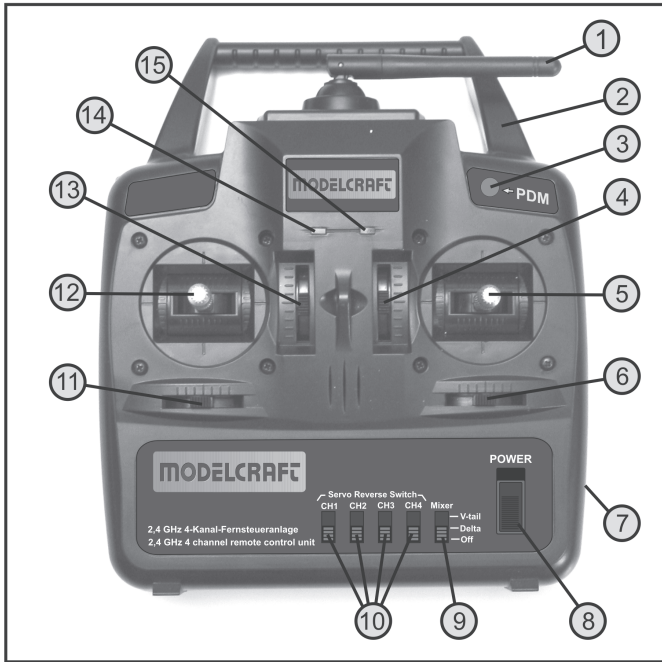

Figure 1
Angle the transmitter's aerial (see figure 1, item 1) to the side, so that the aerial is at a 90° angle to the connection line remote control/model. This is how you will achieve best signal transmission. Avoid directing the tip of the transmitter aerial directly at the model.
The power supply of the transmitter requires 4 mignon batteries (e.g. Conrad item no.: 652507, pack of 4, please order 1x) or rechargeable batteries size mignon (AA). For ecological and also for economical reasons it is recommended to use rechargeable batteries, since they can be recharged in the transmitter via a built-in charging socket (see figure 1, item 7). Proceed as follows to insert the batteries or rechargeable batteries:
When new batteries or freshly charged rechargeable batteries have been inserted, switch on the transmitter with the function switch (see figure 1, item 8) for test purposes. Push the operating button from the bottom to the top position.
First, the red LED for voltage supply will light up (also see figure 1, item 15).
A short term later, the remote control emits a signal and the green LED for the binding function and undervoltage (also see figure 1, item 14) starts to light up.
If the voltage supply drops to less than 4.2 V, the green LED for undervoltage (also see figure 1, item 14) starts flashing quickly and the transmitter will emit short signal sounds at the same rhythm. In this case, stop operation of your model as quickly as possible.